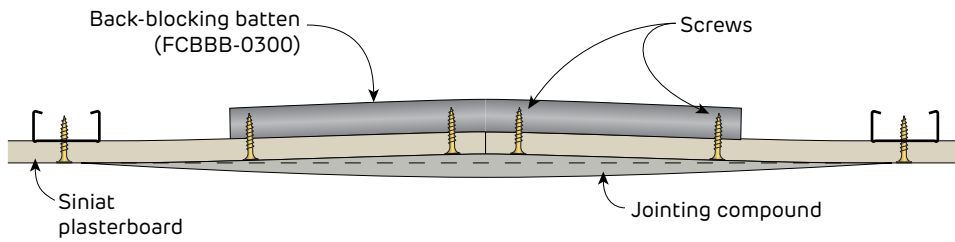
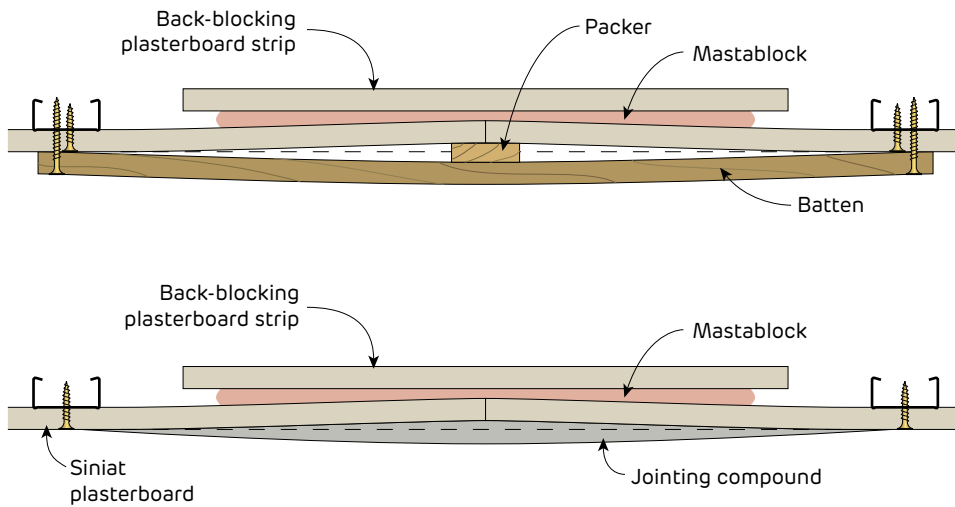

FIGURE 57 Creating a Recess on a Ceiling Butt Joint using Back-Blocking Battens
FIGURE 58 Creating a Recess on a Ceiling Butt Joint using a Temporary Packer
- > Create a recess by using either back-blocking battens as shown in Figure 57 or packers as shown in Figure 58 and 59.